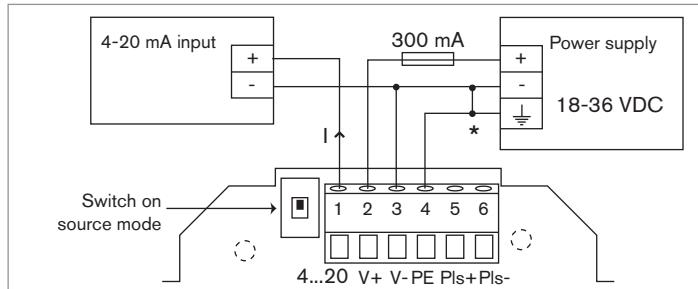
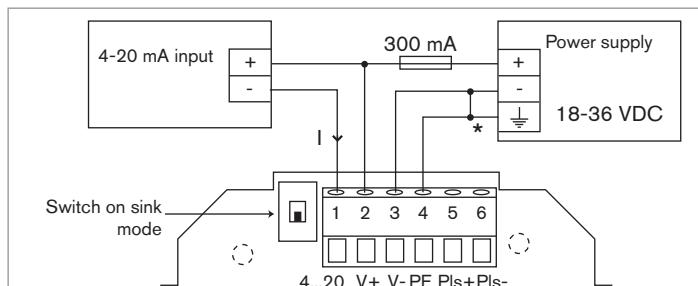

Fig. 16 : Current output connection in source mode
Fig. 17 : Current output connection in sink mode
- Position the switch on the electronic board to the source mode or sink mode position (see Fig. 16 or Fig. 17).
- Connect the 4-20 mA output in source mode (see Fig. 16) or sink mode (see Fig. 17).
- Earth the device (see Fig. 16 or Fig. 17).